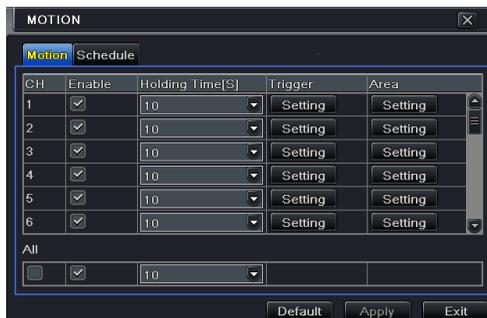

Fig 4-19 Alarm Configuration-Motion
Step 1: Enter into Menu→Setup→Alarm →Motion. Refer to Fig 4-19: